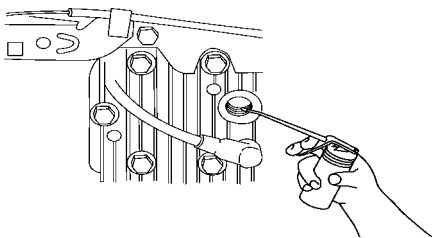

Figure 32
2. Using an oil can, add about one tablespoon of oil through the spark plug hole (Fig. 32).